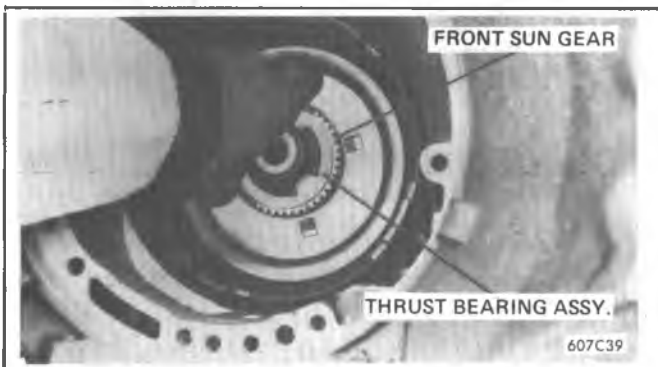

Figure 7A1-41 Removing Thrust Bearing Assembly and Front Sun Gear
1. Grasp output shaft and lift out remainder of rear unit parts and lay down in a horizontal position. (Figure 7A1-47).